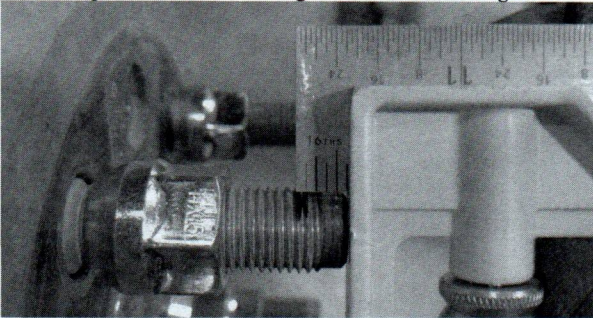

Figure 3. Marking Studs 1/8" Below Spacer Face
6. After measuring stud extension, remove wheel spacers. Fully thread the included wheel spacer lug nuts on to the lugs. Installing the nuts before cutting the studs will allow the nuts to clean up the ends of the cut threads upon removal. Add at least 1/8" to the measurement from step 5 and mark all the lug studs as shown in **Figure 3**.